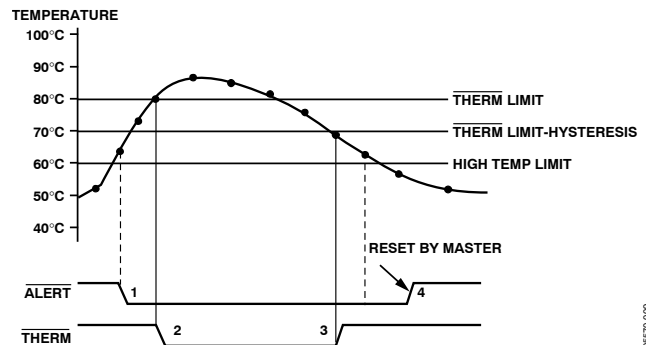

Figure 20. Operation of the ALERT and THERM Outputs
Figure 20 shows how the THERM and ALERT outputs operate. The ALERT output can be used as an SMBALERT to signal to the host via the SMBus that the temperature has risen. If the temperature continues to increase, the THERM output can be used to turn on a fan to cool the system. This method ensures that there is a fail-safe mechanism to cool the system, without the need for host intervention.
- The $\overline{\text{THERM}}$ output deasserts (goes high) when the temperature falls to $\overline{\text{THERM}}$ limit minus hysteresis. In Figure 20, the default hysteresis value of 10°C is shown.